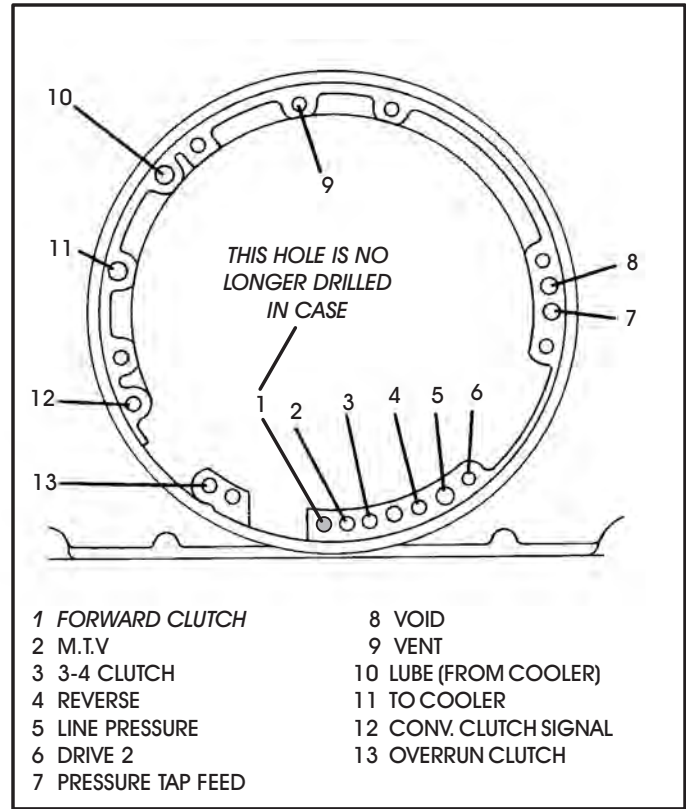

Figure 26
- (c) The forward clutch feed hole in the case face of the pump bore is no longer drilled, as shown in Figure 26.
- (b) Drill the forward clutch feed passage in the face of the pump bore, using a 21/64" drill bit. Refer to Figure 26.